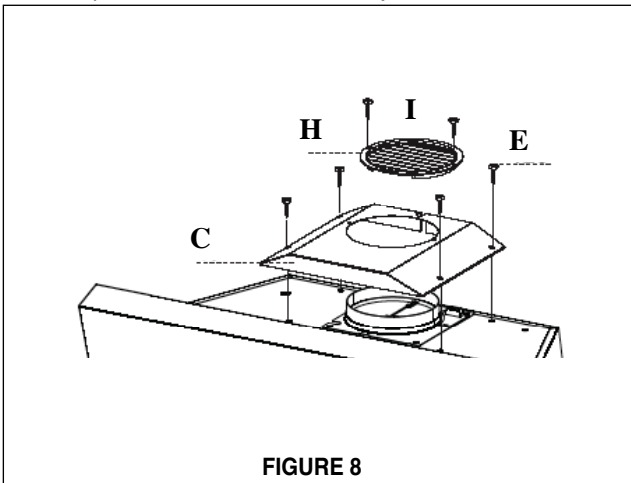

FIGURE 8
1. Screw the ductless grille to the top duct with 4 screws (**part C using the E screws in FIGURE 8**).
2. Attach the grille cover (**H in FIGURE 8**) using the cover screws (**I in FIGURE 8**).